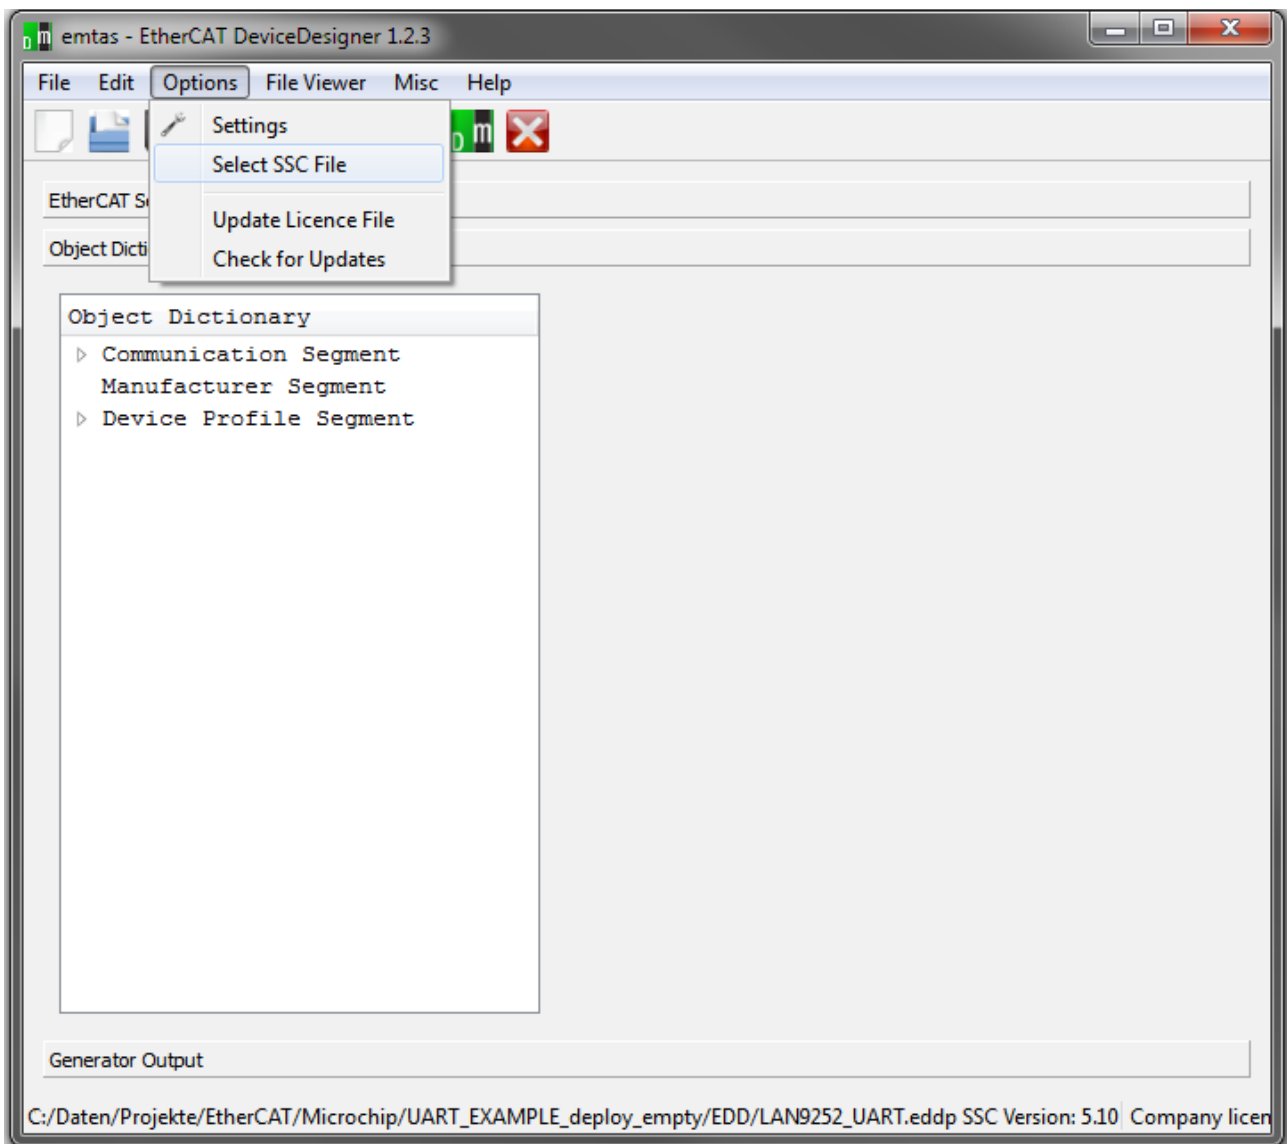

Figure 2: Select the SSC zip file
2. Select the downloaded SSC zip file via “Options -> Select SCC File” as shown in “Figure 2”. Just point to the .zip file.